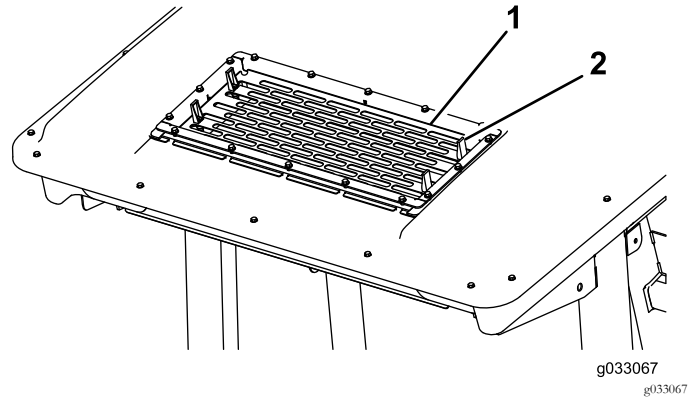

Figure 57
2. Lift the 4 tabs on the air-conditioning screen (Figure 57) and remove the screen from the top of the cab.